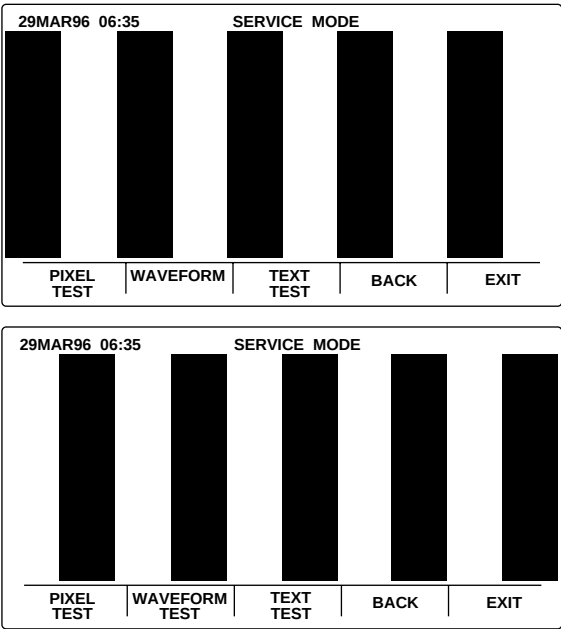

Figure 3-4: Pixel Test Display
8. From the graphics test submenu, press softkey #1, “PIXEL TEST”. Verify that one of the patterns of pixels illustrated in Figure 3-4 is displayed. Press the “PIXEL TEST” softkey again to clear the test pattern.